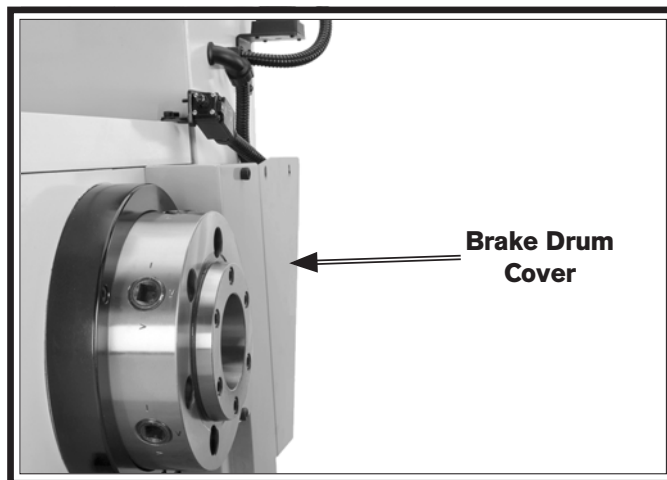

Figure 127. Brake drum cover.
5. If installed, remove the chuck from the spindle, then remove the brake drum cover (see **Figure 127**).